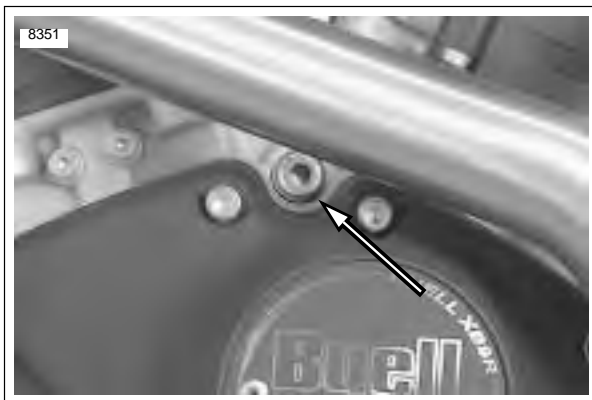

Figure 1-49. Timing Inspection Plug
2. See Figure 1-49. Remove timing inspection plug.